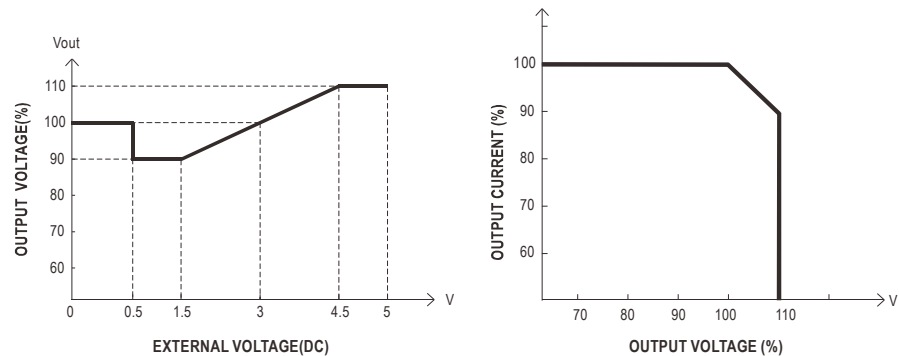

Fig. 3.2 Output voltage trimming
- (2) Adjustment of output voltage is possible between 90~110%(Typ.) of the rated output which is shown in Fig. 3.2. Reducing output current is required when the output voltage is trimmed up.